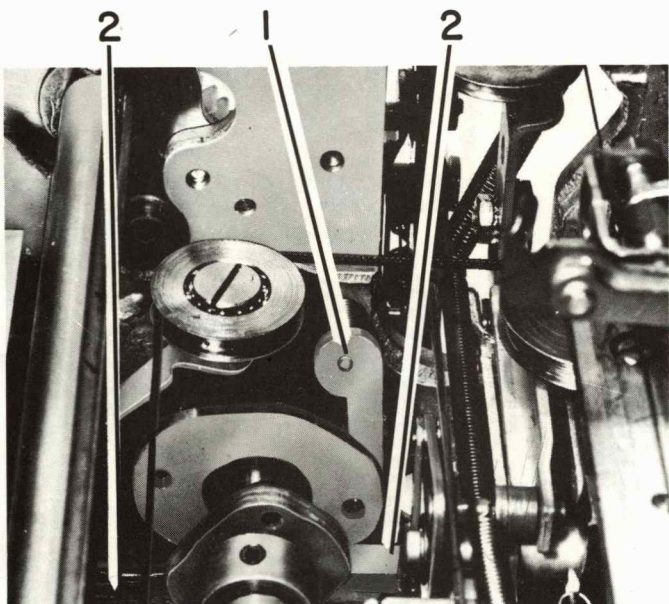

FIGURE 8. Belt Replacement
7. Remove the cycle-clutch check pawl and spring (#1, Figure 8).